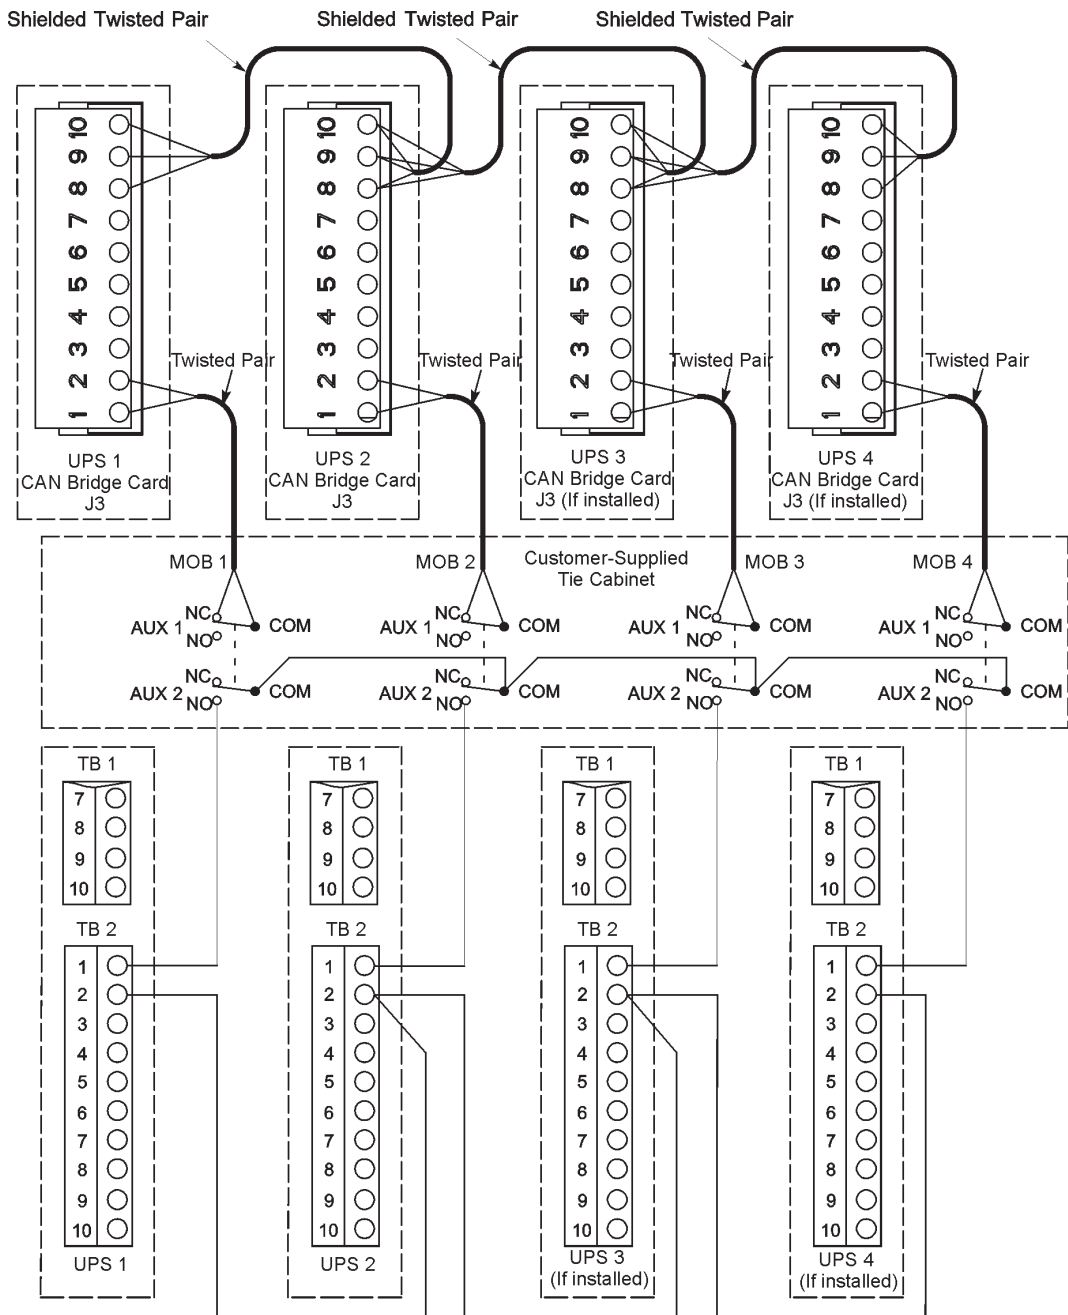

Figure 5-6. Distributed bypass Pull-Chain wiring with MOBs
11. Route and install distributed bypass system pull-chain wiring between the UPS cabinets and tie cabinet MOBs. See Figure 5-6 on page 59 and Table 5-4 on page 60 for wiring information.